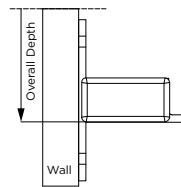

Fig. 3a
3. Identify the door swing and orient the wall post top side accordingly. Identify the overall depth dimension of stall. Refer to layout drawing. Orient wall post according to the door swing. Place the wall post against the wall and position for required floor clearance. Make sure wall post is leveled. **Fig 3a.**